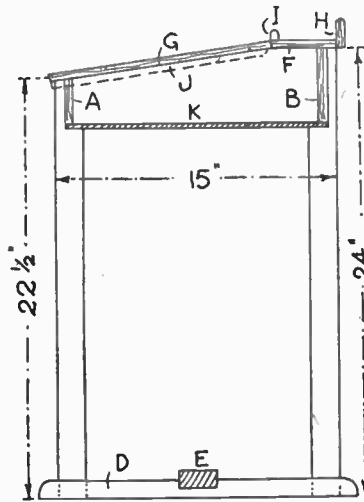

Fig. 1—Side view with dimensions
rails and with the corners cut away and trimmed round to clear the legs. Screw the floor to the rails as shown in Figs. 1 and 5. Now cut the bottom cross rail (E) to length, and at each end form a sinking $\frac{1}{4}$ in. deep by 2ins. wide to fit nicely into the floor rails. Glue the rails and put in screws from beneath. The ends of the floor rails, and those of the cross rail should be rounded off and made smooth.